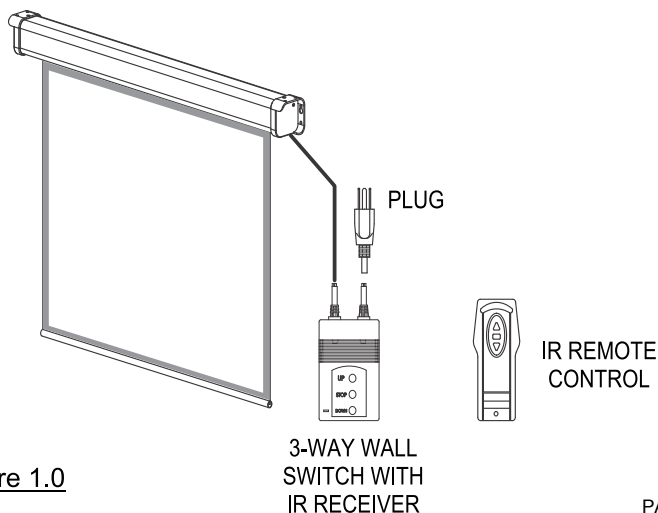

Figure 1.0
- Check the contents of the box against **Figure 1.0** to be sure that nothing is missing.